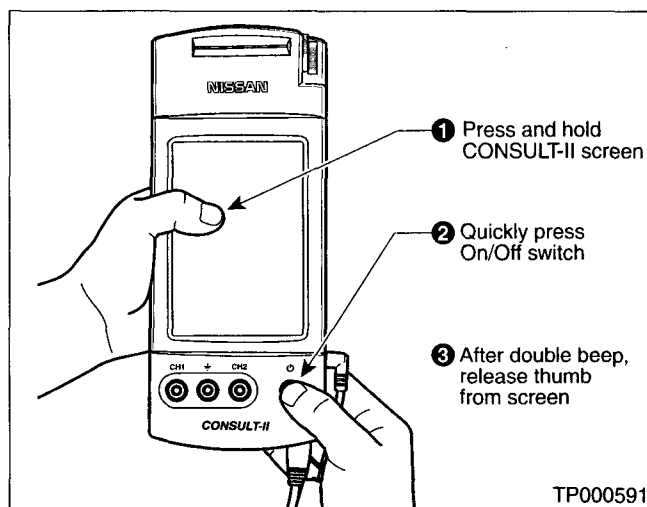

Figure 9
- A. While pressing on the CONSULT-II screen with your thumb, quickly depress and release the ON/OFF switch (see Figure 9).